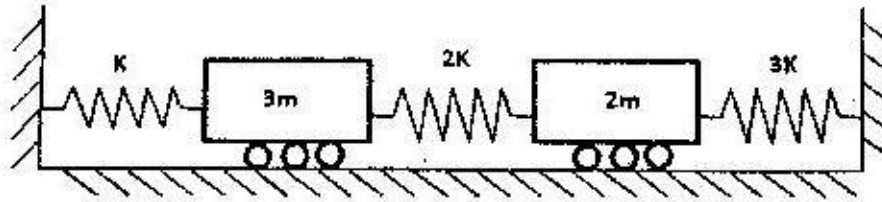

Figure 13(a) (i)
- (b) (i) Explain with necessary equations, how vibration measuring instruments are characterised as vibrometer and accelerometer. (6)
- (ii) A vibrometer has a natural frequency of 10 Hz and a damping factor of  $\zeta = 0.15$ . Determine the lowest frequencies at which the measured displacement has accuracies with 1% and 3% errors. (6)
- (iii) If the above instrument is to be used as an accelerometer what is highest forcing frequency at which the accuracy is less than 2%. (4)
13. (a) (i) Derive the equation of motion for the system shown in Figure 13(a) (i). (8)